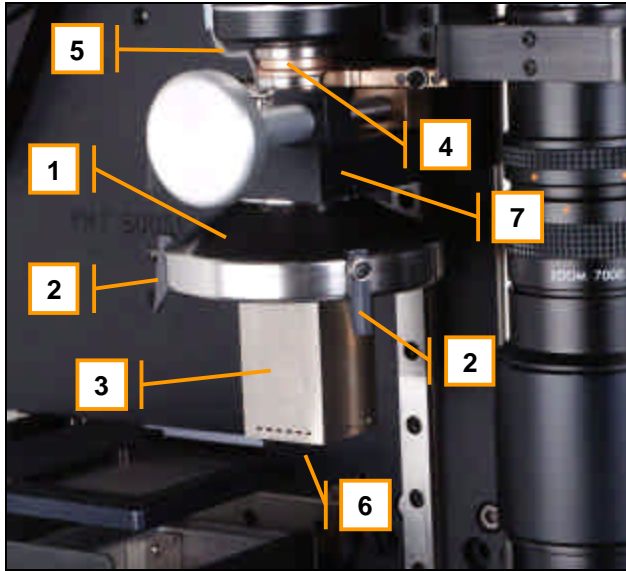

Figure 16: Lower Heater Head Details
The lower heater head assembly is supported by the theta adjustment bearings, which are mounted to the heater plate (7). The lower heater housing (1) rotates using the theta adjust (Fig. 12). The heat path from the upper heater head (Fig. 15, Item 7) to the lower heater head is closed by a spring-loaded bronze seal (4). Vacuum is generated by a venture in the rear head enclosure. The vacuum tip (6), not visible in Fig. 16, receives vacuum through a Teflon tube connected to the vacuum transfer pipe (5). The vacuum tips are interchangeable for placing and removing different size and weight SMT parts. Interchangeable nozzles (3) are held into the lower heater housing (1) by three spring-loaded clips (2).